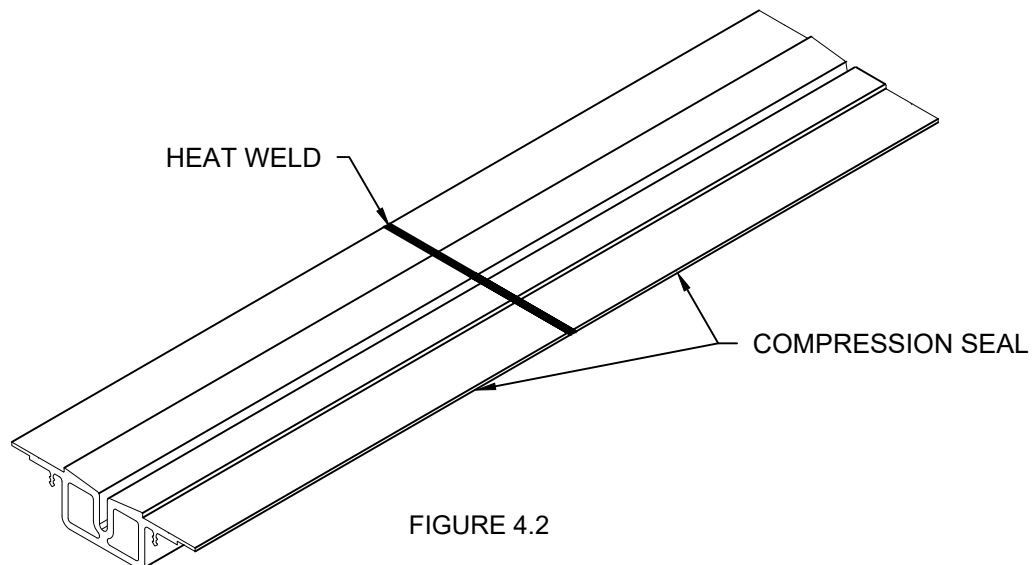

FIGURE 4.2
- 4.3) Push the Compression Seal into place by forcing the push-in arrows into the Floor Frame slots. The Compression Seal will overlap the previously installed Wing Seals, and it will cover up the extruded screw bosses in the Floor Frame. (See Figure 4.2) **Note:** If needed a wood block and hammer can be used to help seat the push-in arrows into the slots. Also, water can be sprayed on the Push-In Arrow to ease installation.
- 4.5) In order to splice Compression seal, butt two sections together and heat weld at the seam with a hot knife or other capable device. (See Figure 4.2)